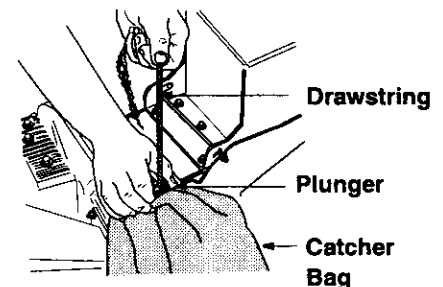

Figure 8
- Depress the plunger on the draw-string, and pull on the draw-string until the bag is tight around the chute opening. Release plunger to lock it into position. See figure 8.